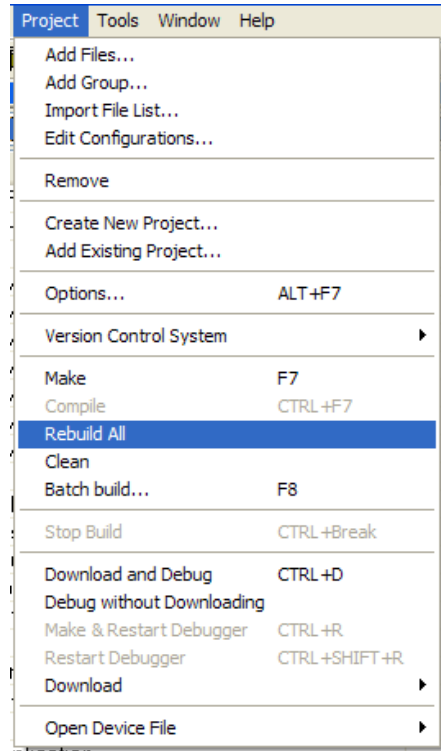

Figure 16. Rebuild the Project
2. Select **Rebuild All** from the **Project** menu, as shown in Figure 16. (Note that you should always perform a **Rebuild All** action after switching projects.)
2. Select **Rebuild All** from the **Project** menu as shown in Figure 16. (Note that you should always perform a **Rebuild All** action when switching projects.)